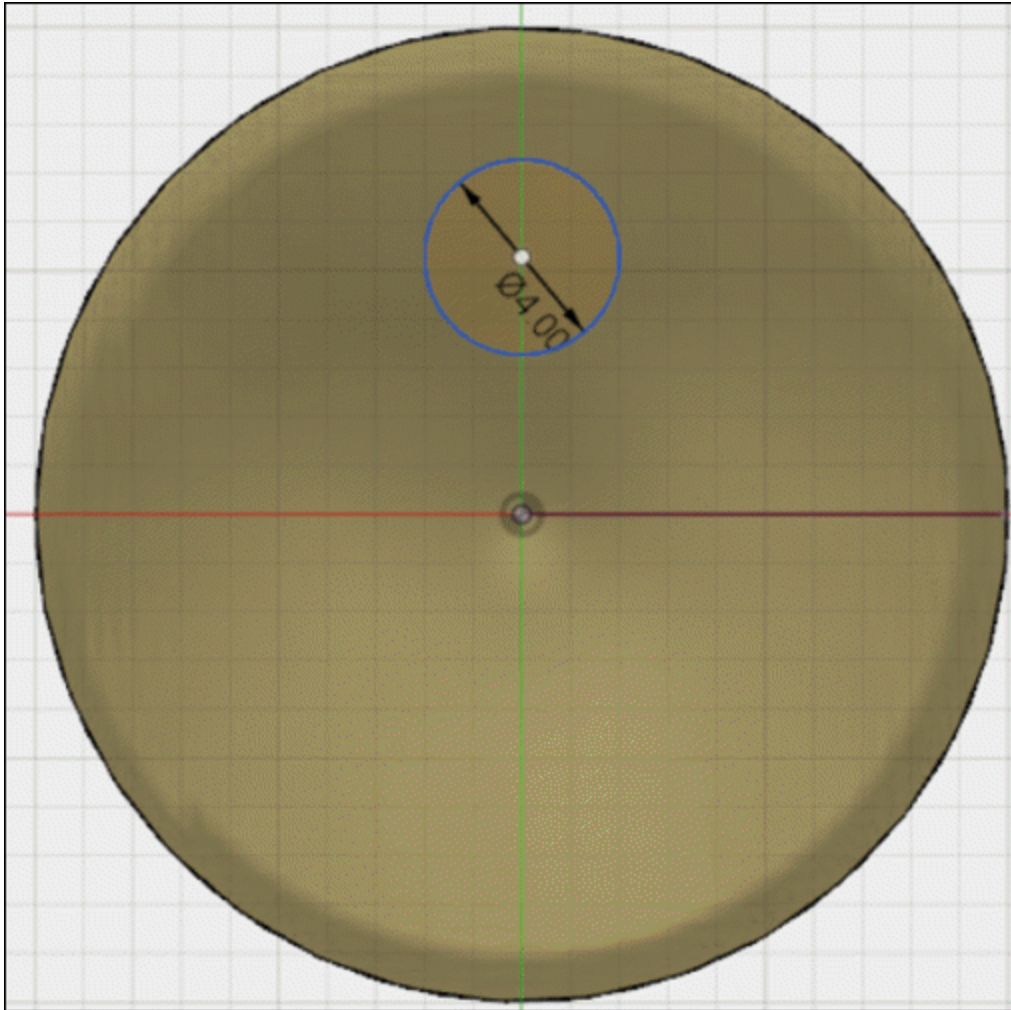

Figure-43. Creating circle
- Create the circle as shown in Figure-43.